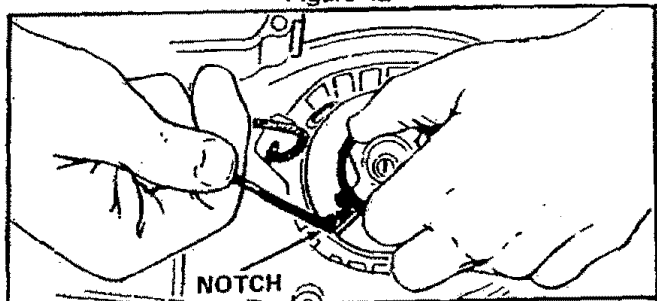

Figure 43
19. Pull out 10 inches of rope and set the rope in the notch in the pulley. Figure 43.